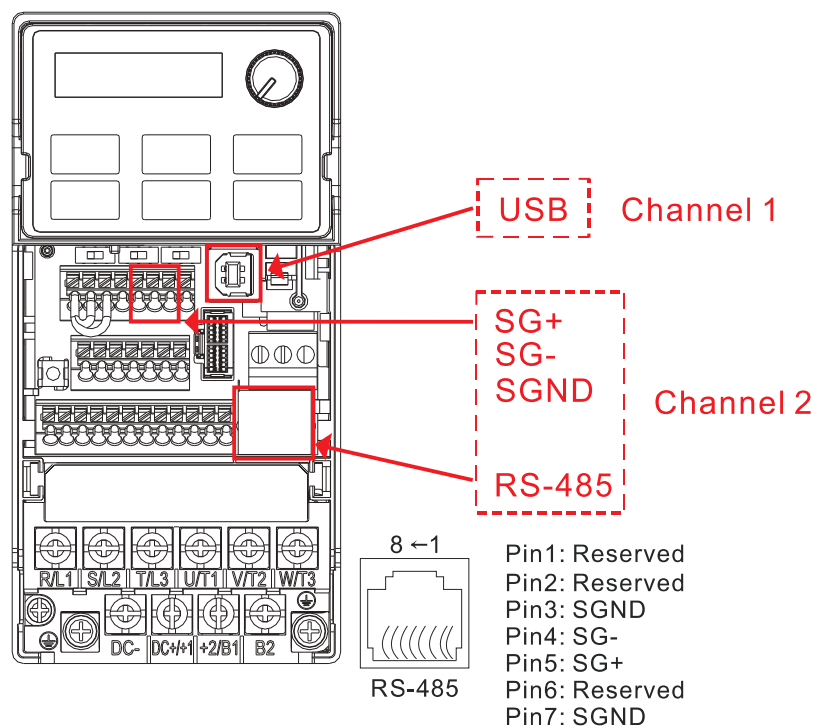

Figure 16-1
1. The MS300 provides two communication serial ports that you can use to download programs to the PLC (see Figure 16-1 below).